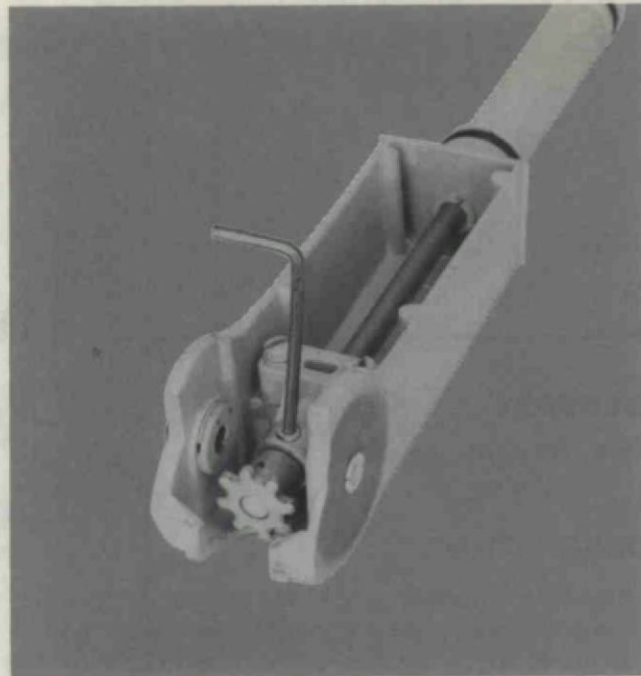

Figure 4. Loosening Set Screw.
- A. Loosen set screw on steering handle shaft retainer. Figure 4.
- B. Remove two (2) screws and lockwashers securing steering handle bearing and wedge. Remove bearing and wedge.